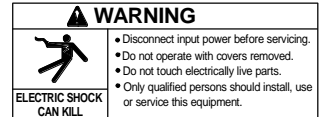

Figure 16
3. Locate the two screws (**A**). See **Figure 16**